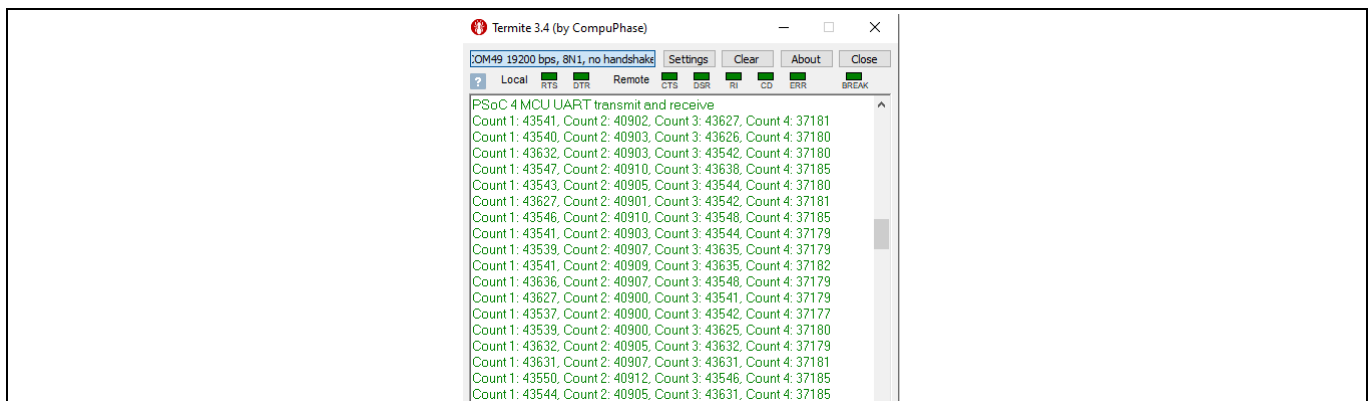

Figure 18 Terminal output
10. Also, open the terminal (for example, Termite or Tera Term), choose the right Com port: Kit_Prog port and set the baud rate to 19200. Figure 18 shows the raw counts of all the sensors are listed in the terminal window.